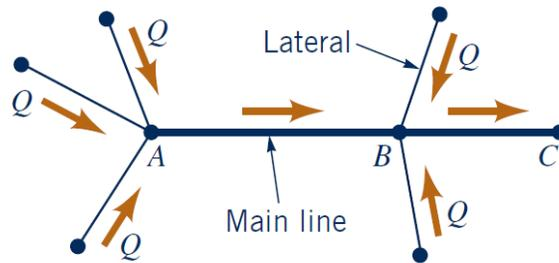

Fig. 8.
12. Five oil fields, each producing an output of  $Q$  barrels per day, are connected to the 28-in.-diameter “mainline pipe” (A–B–C) by 16-in.-diameter “lateral pipes” as shown in Fig. 8. The friction factor is the same for each of the pipes and elevation effects are negligible. (a) For section A–B determine the ratio of the pressure drop per mile in the mainline pipe to that in the lateral pipes. (b) Repeat the calculations for section B–C.